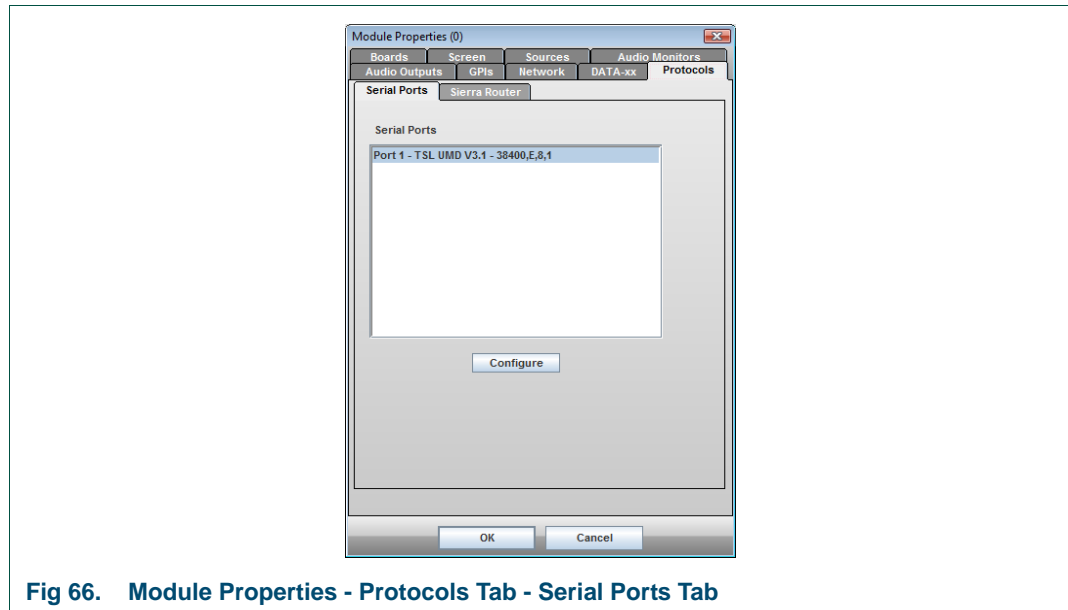

Fig 66. Module Properties - Protocols Tab - Serial Ports Tab
4. Select the **Protocols** tab and then select the **Serial Ports** tab (Fig 66.).